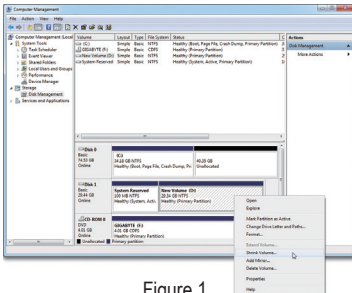

Figure 1
- Step 2: Select the SSD on which you want to create the store partition (if the SSD is unallocated, create a new partition first), and right-click on the partition you select and select **Shrink Volume**. (Figure 1)